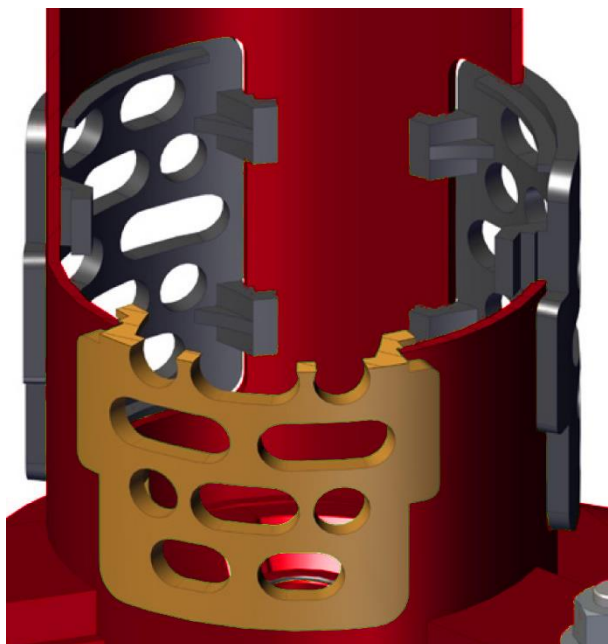

Figure 15. Fitting Upper Elastomer Strainers.
4. If the three individual UPPER STRAINERS (087) are used, install into the column openings (cutouts) in the column as shown in Figure 15. Bend strainers slightly and fit into cutout in column, such that the four molded strainer lugs clip into the sides of the column cutout and hold strainer firmly.